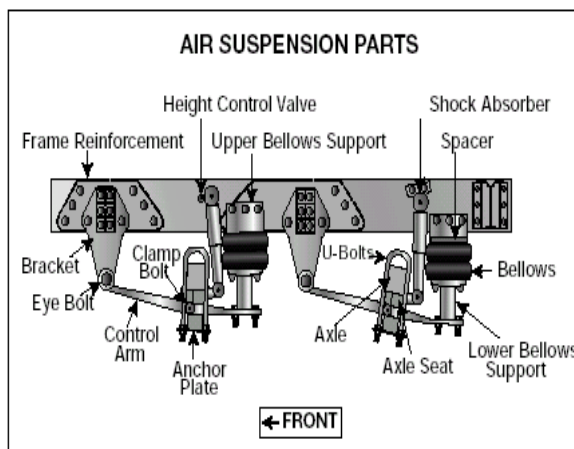

Figure 2.4
- ☐ Air suspension systems that are damaged and/or leaking. **See Figure 2.4.**